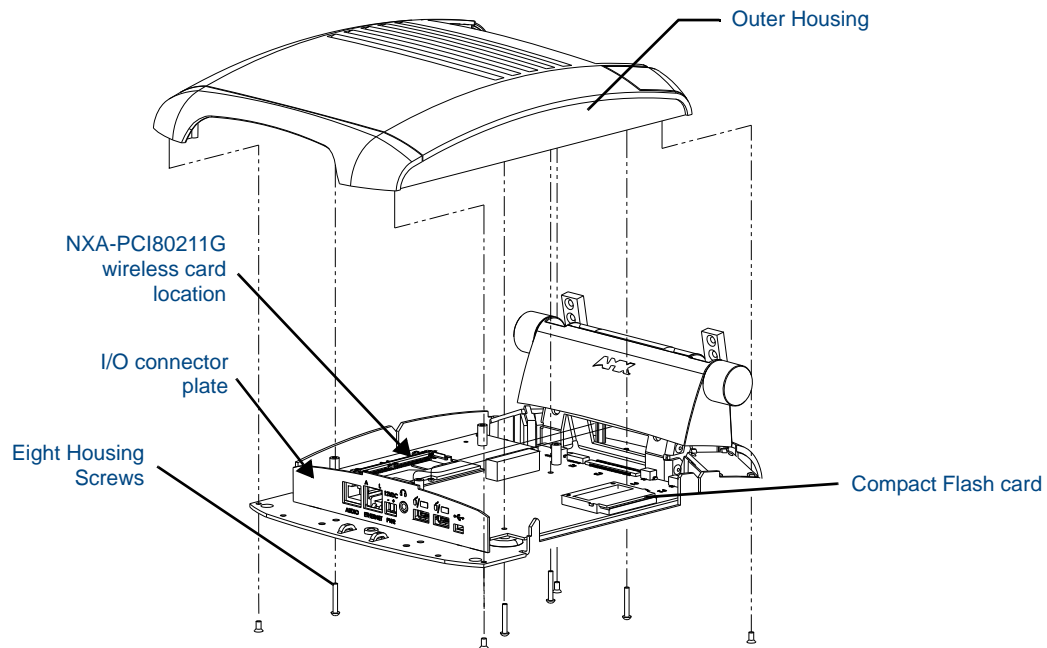
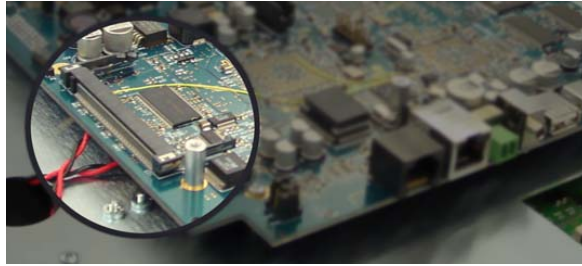

FIG. 18 Location of the NXA-PCI80211G wireless card on the NXT board
FIG. 19 Location of the mini-PCI card connector on main board
2. Locate the mini-PCI card connector on the main board (FIG. 18 and FIG. 19).